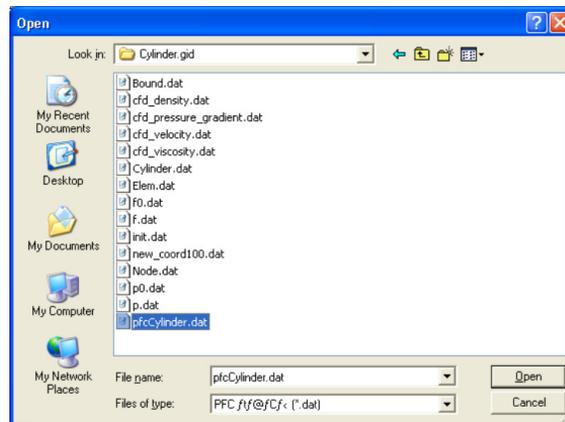

Figure 21: Reading the PFC3D data file
3. You must now read the PFC3D data file needed for the computation. Select the file **PfcCylinder.dat** and click on **Open** (Figure 21).